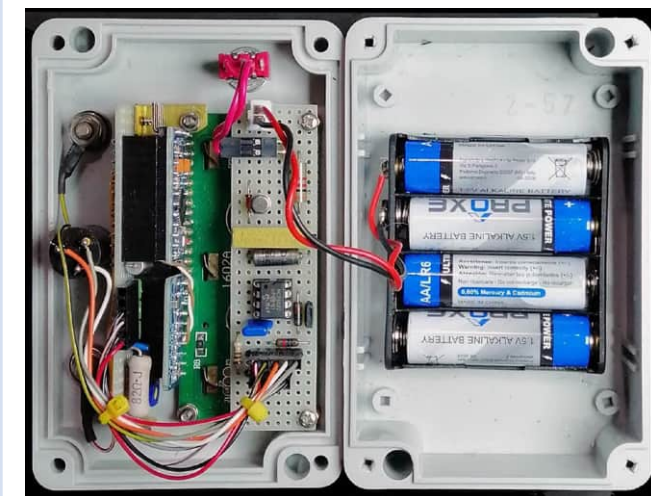

Figure 8: Interior view of the completed prototype.
**Figure 8** shows what the prototype looks like. The two boards are of the single-sided multi-hole type, the display and ADC converter are connected with 16 and 10 pin, 0.1" pitch strip connectors, and the Arduino Pro module is connected with two 12-pin strips.